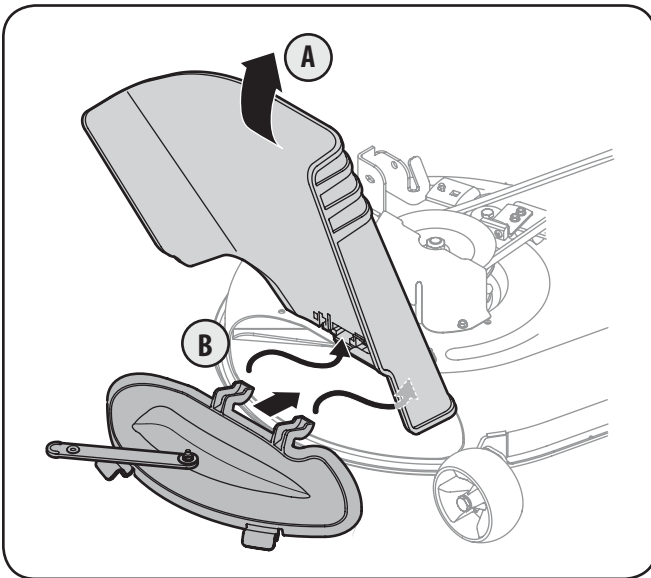

Figure 1-4
2. Lift the discharge chute up (A). See Fig. 1-4.
3. Insert the mulch plug into the deck discharge opening by fitting the tabs on the upper edge of the mulch plug inside the slots found on the discharge chute (B) and pivoting the mulch plug downward into place .